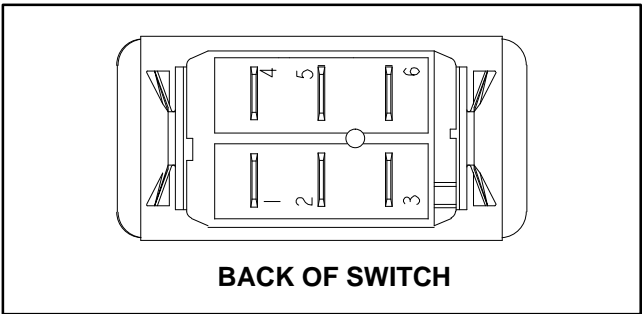

Figure 60
- 4. With the use of a multimeter (ohms setting), the worklight switch functions may be tested to determine whether continuity exists between the various terminals for each position. The switch terminals are marked as shown in Figure 60. The circuitry of the worklight switch is shown in the chart below. Verify continuity between switch terminals.